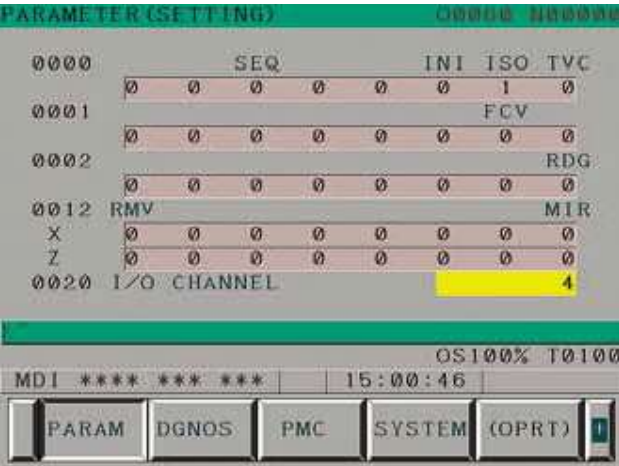

Fig. 5
5. Press chapter selection soft key "PARAM" button. (see Fig. 5)